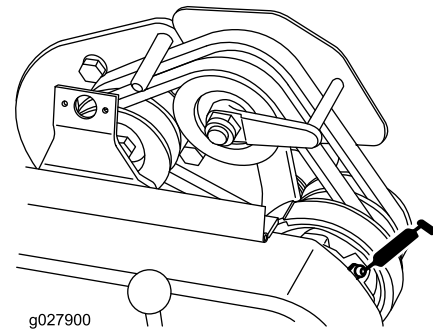

Figure 20
- 1 on the power shaft bearing (Figure 20).